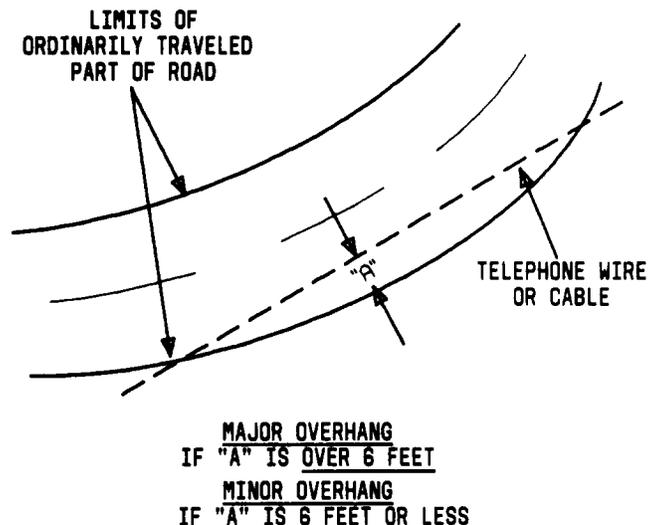

Fig. 1—Overhang—Running Along Public Roads
1.05 The clearances shown for **wire overhanging** the traveled part of the road are considerably larger than clearances required where no such overhang is involved (Fig. 1).
2.01 The required C rural wire clearances above various ground or rail environments and in relation to span lengths are shown in Table A. Figures 1, 2, 5, 6, and 7 are referenced in Table A.